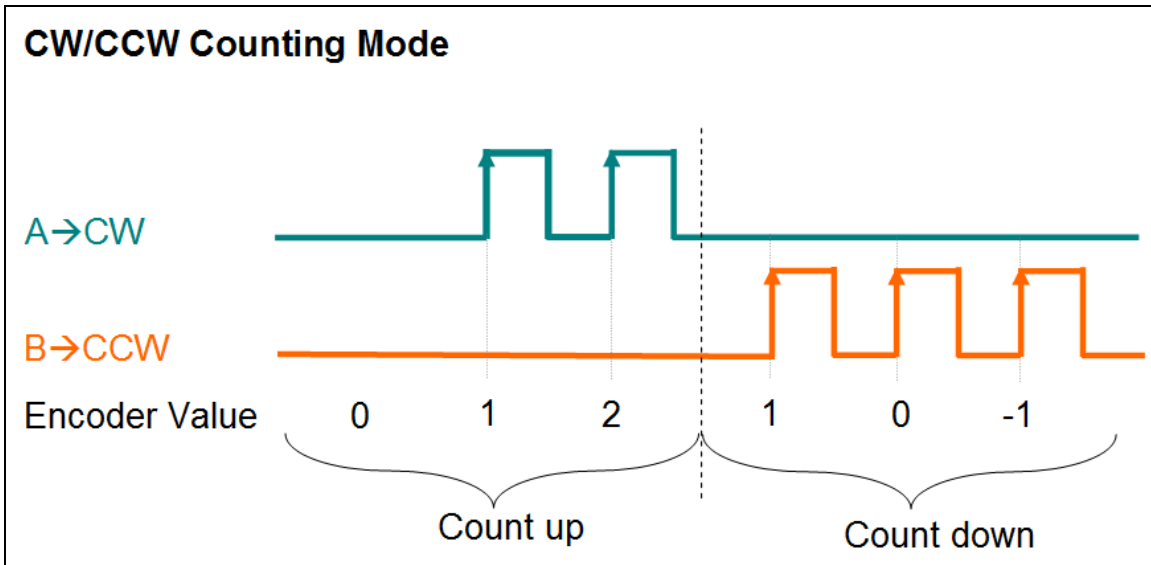

Figure 26: Clockwise/ Counterclockwise counting mode
In **clockwise/counterclockwise mode** (Figure 26) the "A" signal indicates a positive increments (clockwise signal) and the "B" signal a negative increments (counterclockwise signal). Therefore the encoder counter increases by one when the "A" signal is going
- Changing the signal polarity for the clockwise/counterclockwise mode (Figure 26) will not change the counting direction